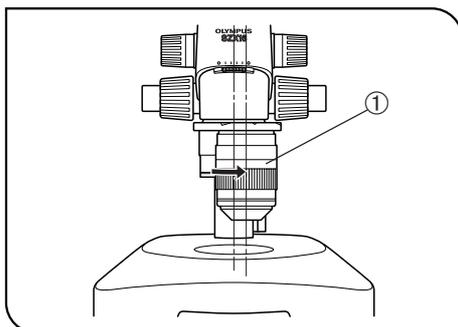

Fig. 30
1. Rotate the desired objective ① clockwise (15°) till the click position for the photo light path. (Fig. 30)